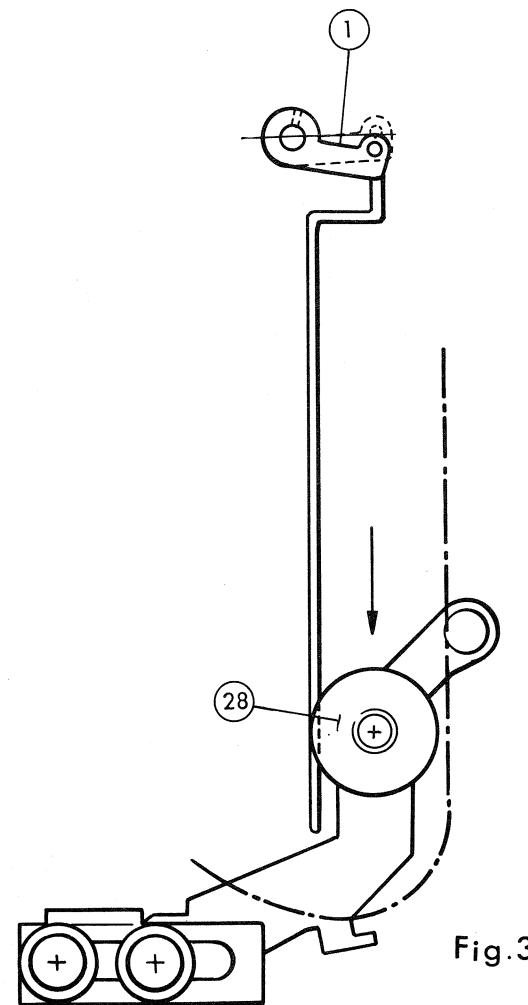

Fig.32
4. Pass the film, making the lower loop shorter frame by frame, and install ①, so that the film touches the roller in Fig. 32, then touches the bottom of ③ before the roller rotates, causing the loop restorer to activate. Furthermore, in case the loop restorer fails to activate, with the film touching ⑧ and producing the vibrating sound, make gear alignment by rotating the second sprocket (Fig. 15).